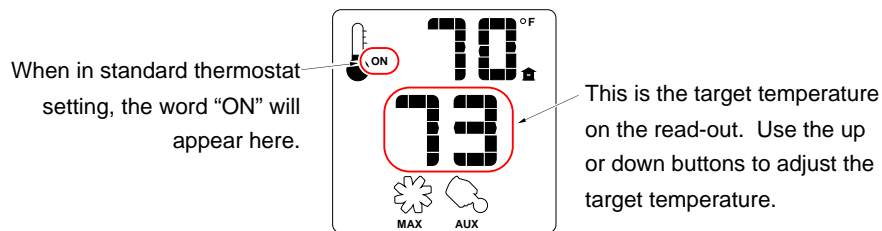

Figure 8
- **STANDARD THERMOSTAT** - While in standard thermostat setting, the transmitter will turn the burner on and off to achieve the target temperature (see Figure 8 below). To adjust the target temperature, press the up and down buttons until a suitable temperature is achieved.